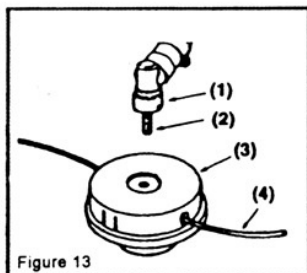

Figure 13
- (1) Nut
- (2) Outer holder 1
- (3) Outer holder 2
- (4) Blade
- (5) Gear shaft
- (6) Bar
- (7) Inner holder
- (8) Gear case
■ INSTALLING THE NYLON CUTTER (OPTION) (Figure 13)